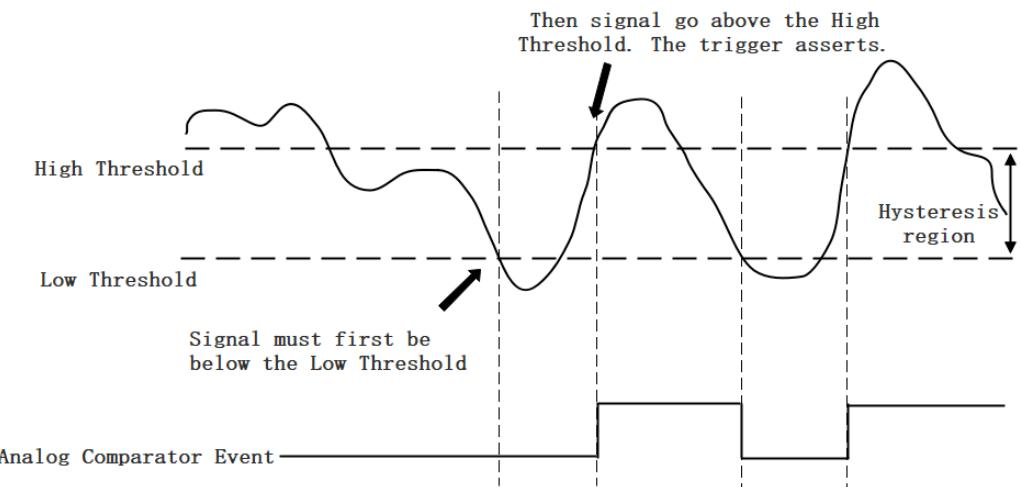

Figure 19 Hysteresis with Rising Slope Trigger
*Hysteresis with Rising Slope Trigger:* The Hysteresis comparator output is high when the signal must first be below the low threshold, then goes above the high threshold. The output will change to low when the signal goes below the low threshold as shown in Figure 19.